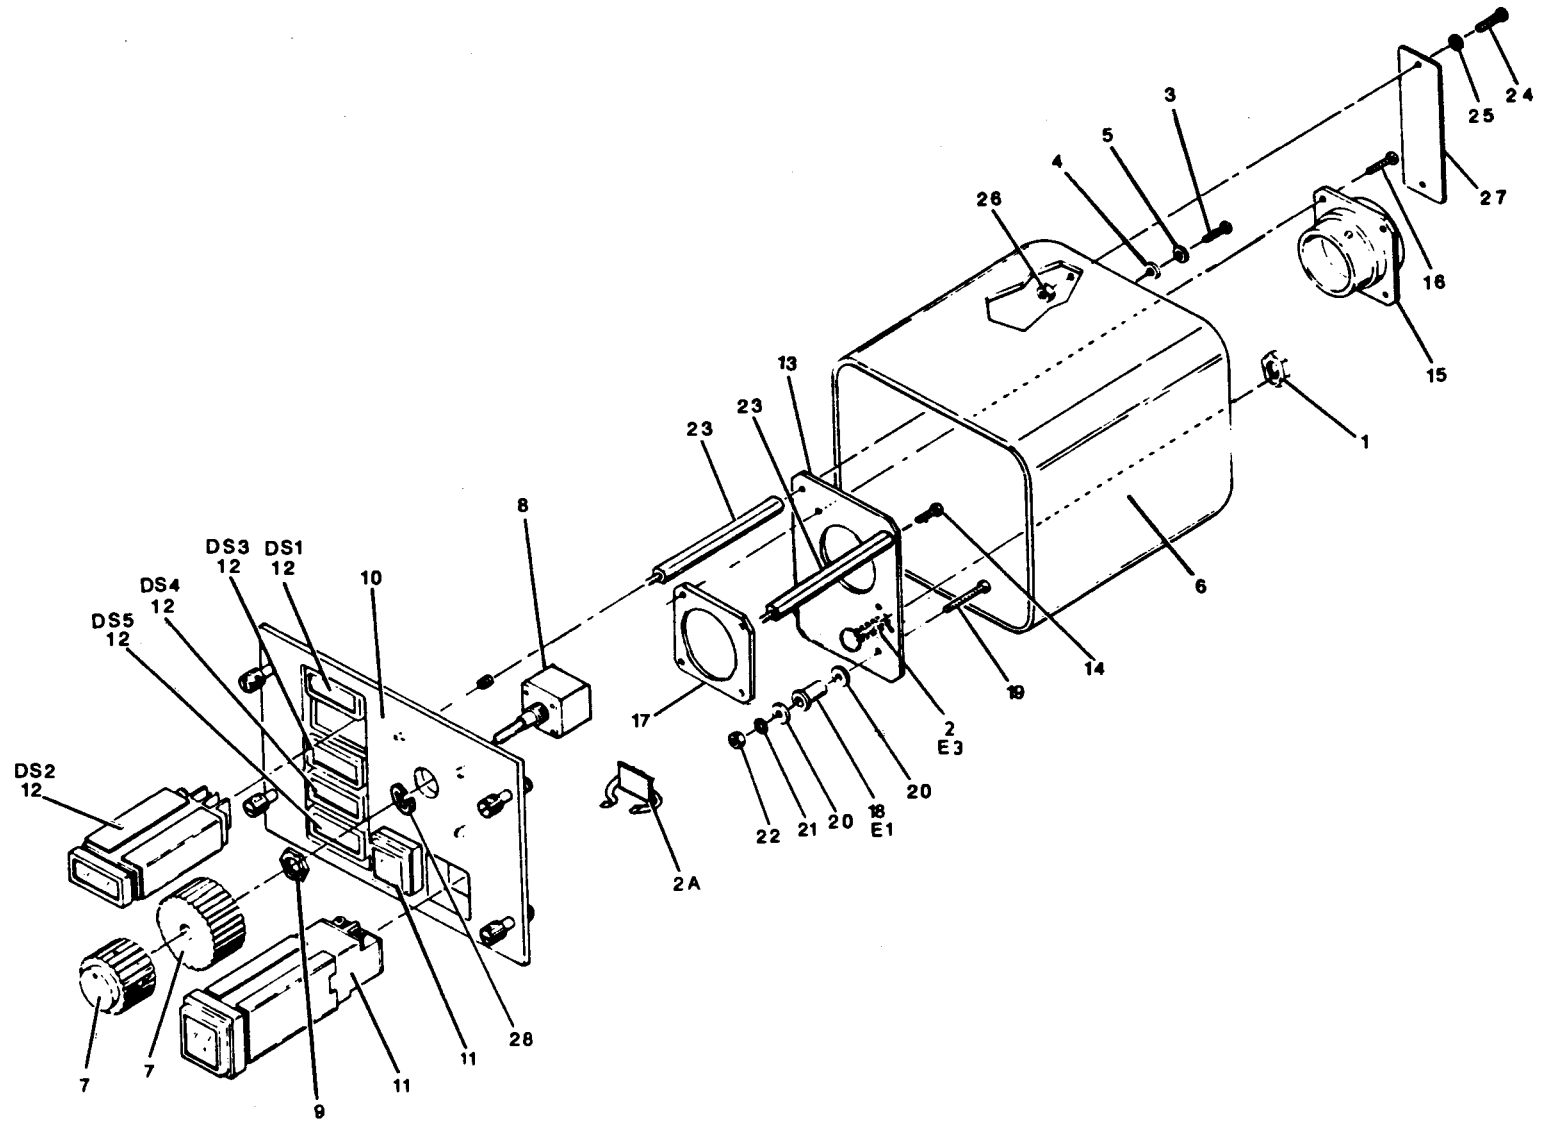
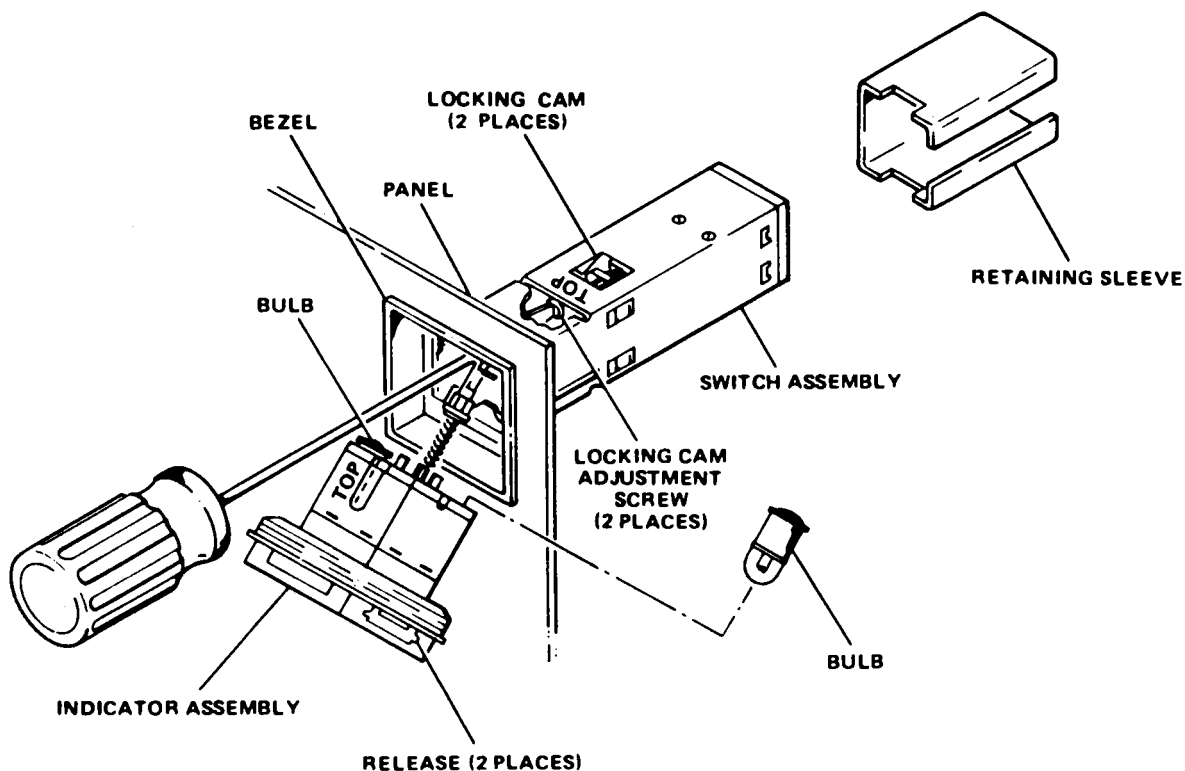
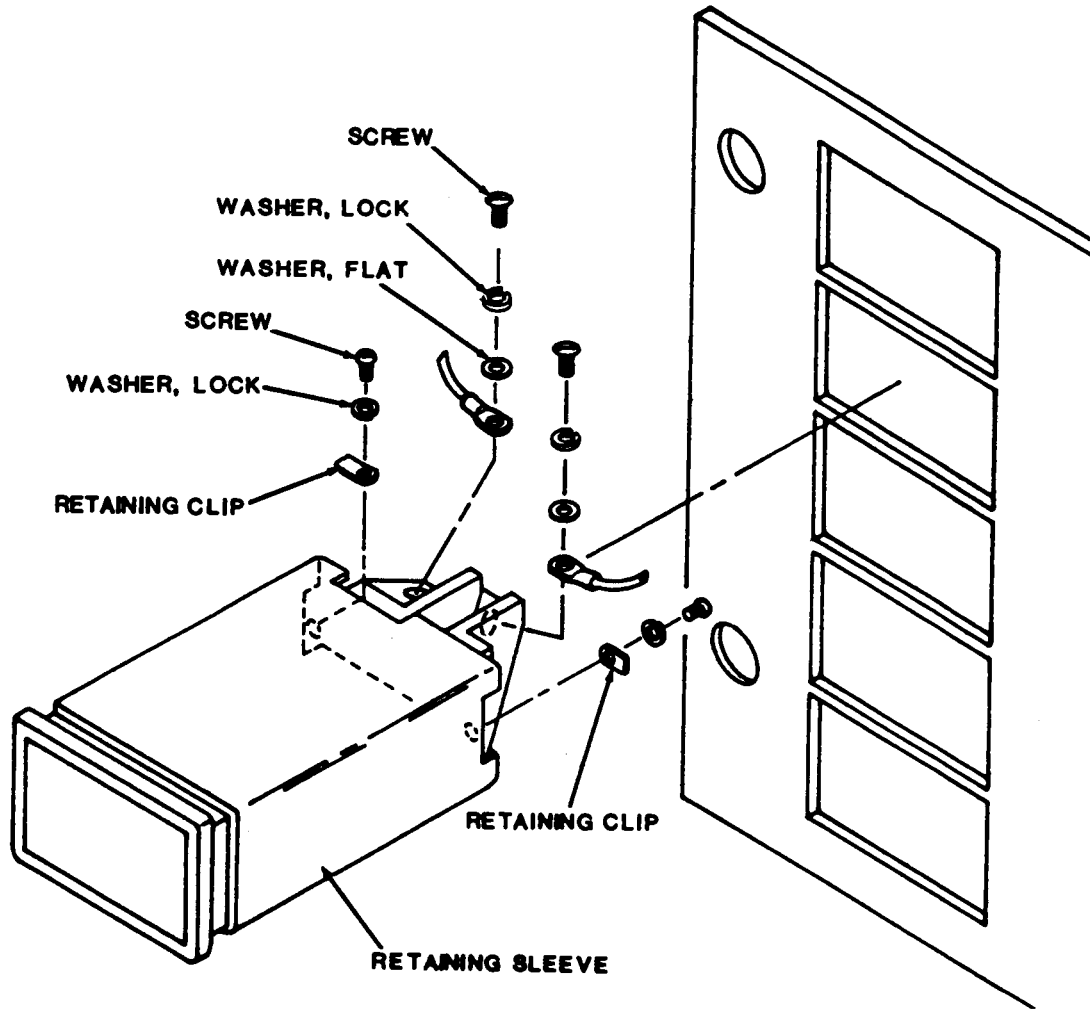
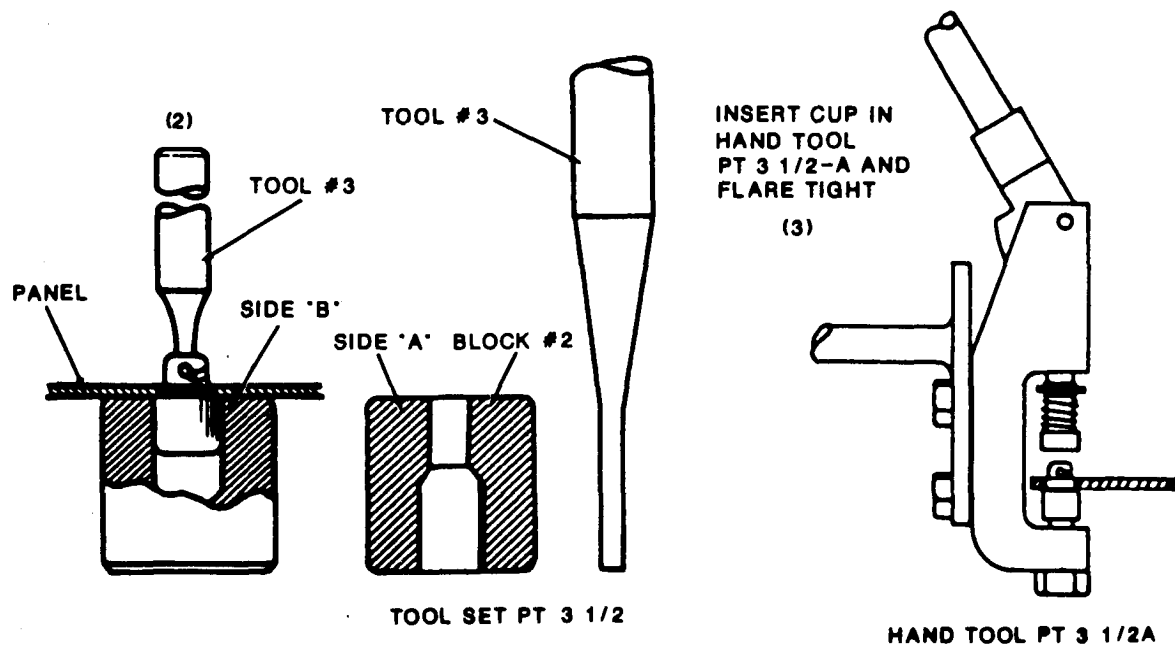

Figure 5-9. ECM Panel Indicator Component Locations
Figure 5-10. Switch/Indicator Replacement
Figure 5-11. Indicator Replacement
Figure 5-12. Fastener Removal and Installation
5-11. ECM Panel Indicator Procedures. ECM panel indicator maintenance consists of removing the enclosure and, if required, repairing the unit using the following procedures. Figure 5-9 shows ECM panel indicator component locations. Procedures reference components by parenthetical numbers keyed to figure 5-9.
- a. Enclosure Removal. Refer to figure 5-9 and proceed as follows:
- (1) At the rear of the unit, remove the nut (1) from terminal stud E3 (2).
(2) Remove the two screws (3), flat washers (4), and lock washers (5) that secure the enclosure (6) to the chassis stand off (23).
(3) Slide the enclosure (6) backward, off the chassis.
b. Potentiometer Removal and Replacement. Refer to figure 5-9 and proceed as follows:
(1) Remove enclosure (6) in accordance with paragraph 5-11a.
(2) Loosen the setscrews and remove both knobs (7) from the potentiometer (8).
(3) Remove the collar nut (9) and lock washer (28) that secure the potentiometer (8) to the front panel (10). Remove the potentiometer.
(4) Tag the wires to identify potentiometer (8) connections.
(5) Unsolder the wires from the potentiometer (8).
(6) Solder the wires to the replacement potentiometer (8) as tagged.
(7) Remove the collar nut (9) and lock washer (28) from the replacement potentiometer. Slide the replacement potentiometer into the front panel (10) and secure with the collar nut (9) and lock washer (28).
(8) With the potentiometer in the fully counterclockwise position install both knobs (7) and secure the indicator with the setscrews.
(9) Replace enclosure (6) in accordance with paragraph 5-11, step 1.
(10) Refer to section V of this chapter.
c. Switch/Indicator Removal and Replacement. Refer to figure 5-9 and figure 5-10, and proceed as follows:
(2) Grasp the edges of the lens assembly of the switch/indicator (11) to be replaced and pull forward about one inch (see figure 5-10). Allow the lens assembly to hang down on the front panel to expose the locking cam adjustment screws.
(3) Use a screwdriver to turn the two locking cam adjustment screws counterclockwise (CCW).
- (6) Unsolder wires from indicator/switch.
- (7) On the replacement switch/indicator, grasp the lens assembly and pull forward about one inch.
- (8) Verify that the replacement switch/indicator contains two lamps.
- (9) Use a screwdriver to turn the two locking cam adjustment screws fully CCW.
- (10) Solder the wires to the switch/indicator as tagged.
- (11) Verify that the TOP label on the switch assembly faces up and install the replacement switch/indicator.
- (12) Use a screwdriver to turn the two locking cam adjustment screws fully clockwise (CW).
- (13) Verify that the indicator label is facing up and install the lens assembly.
- (14) Replace enclosure in accordance with paragraph 5-11, step 1.
- (15) Refer to section V of this chapter.
d. Indicator Removal and Replacement. Refer to figure 5-9 and figure 5-11, and proceed as follows: